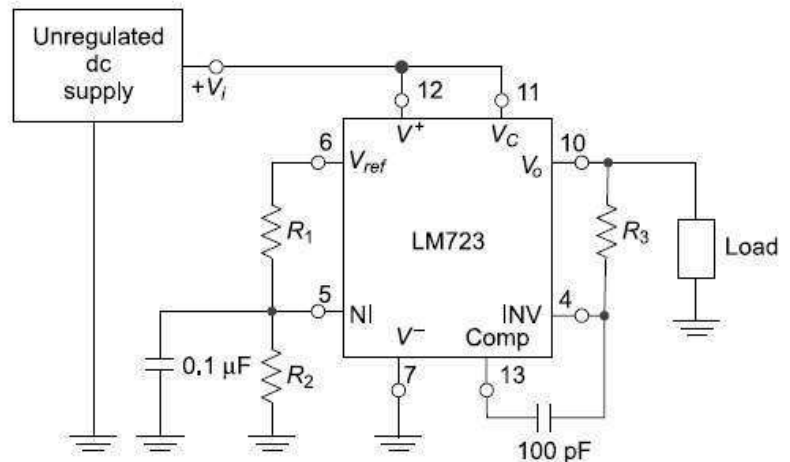

Fig. 8.22 Functional block diagram of a low voltage regulator using IC 723
Figure 8.22 shows the functional block diagram for a low voltage regulator using IC 723. This circuit arrangement is used for regulating voltages ranging from 2V to 7V, and hence it is called a low voltage regulator. The output voltage is directly fed back to the INV input terminal. The non-inverting input (NI) is obtained across the potential divider formed by resistor R_1 and R_2 . Hence, voltage at NI terminal is given by